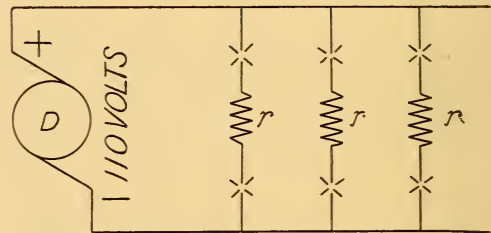
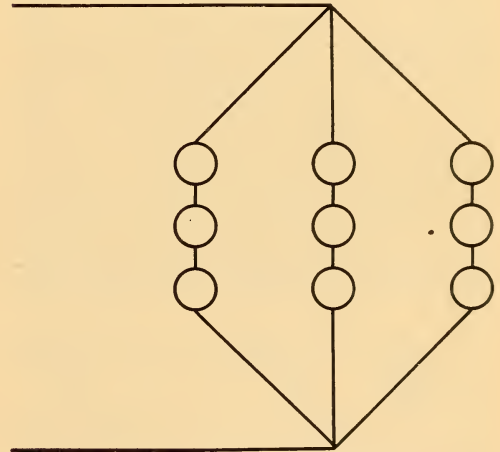
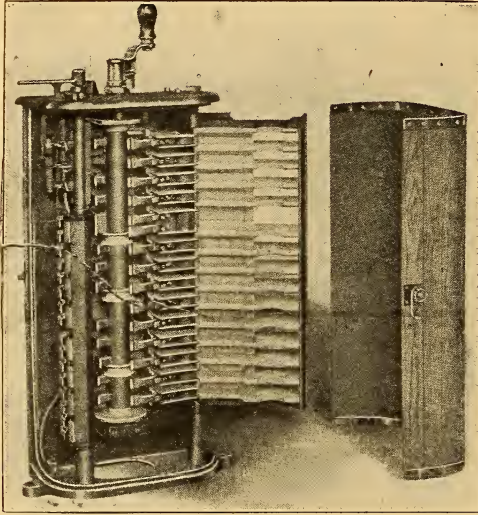

FIG. 24. MULTIPLE-SERIES CIRCUIT OF ENCLOSED ARCS.
FIG. 26. MULTIPLE-SERIES CONNECTION OF NINE PLATING BATHS.
FIG. 27. SERIES-PARALLEL STREET CAR CONTROLLER.
The arrangement above referred to is represented in Fig. 24, (Fig. 27, p. 63, Houston & Kennelly's "Electric Engineering Leaflets, Elementary Grade"). Here a dynamo (D), capable of producing an electromotive force of 110 volts, is connected with the positive and negative leads as shown. Three series-connected groups, each consisting of two enclosed arc lamps and a resistance (r), are placed across the leads. As will be seen from an examination of the figure, a pressure of 50 volts is necessary to force the current through each of the arc lamps and an additional pressure of ten volts to cause it to flow through each of the resistances (r).
Fig. 26 (Fig. 27, p. 63, Houston & Kennelly's "Electric Engineering Leaflets, Intermediate Grade"), represents a practical application of a multiple-series connection of electroreceptive devices. Here, the receptive devices consist of
A series-parallel street car controller is represented in Fig. 27 (General Electric Company's Bulletin No. 4557), with the front of the upright vertical sheet-iron case within which the apparatus is placed removed, and with the controller thrown open for inspection.